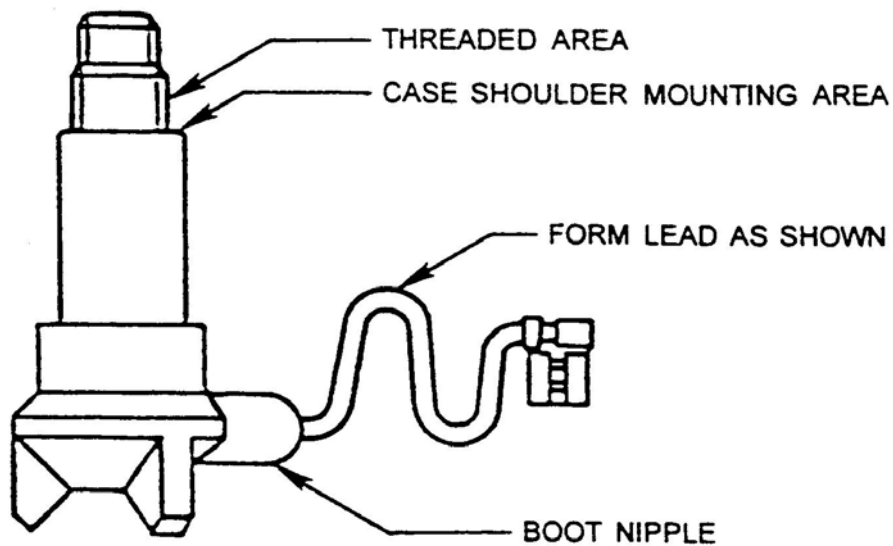

FIGURE 1
- c. Using ONLY a different clean fresh nylon scouring pad, remove contamination and corrosion from capacitor case shoulder and threads as necessary. See Figure 1
- d. Form capacitor leads as shown in Figure 1.